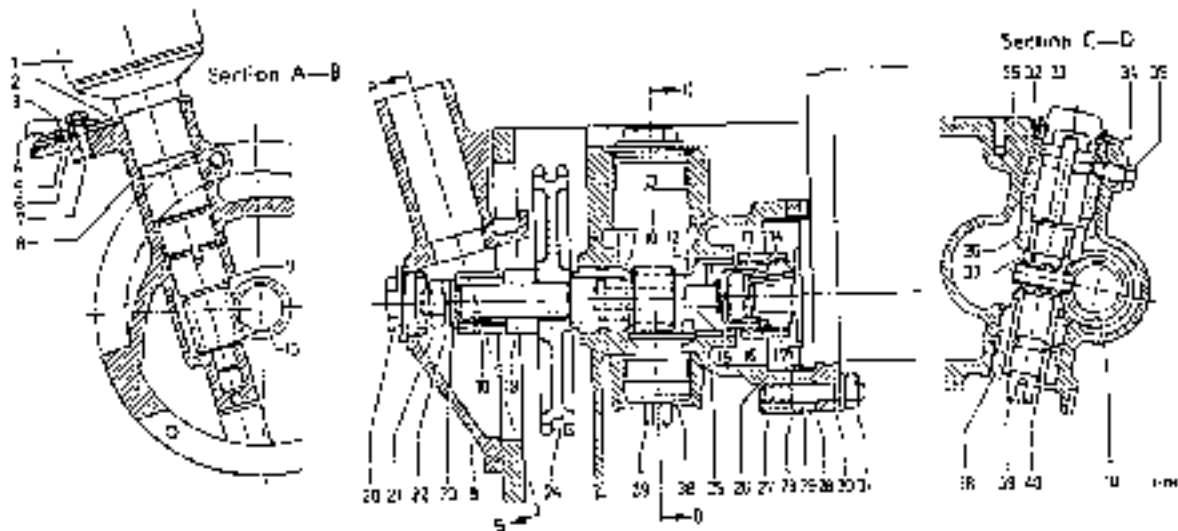

Fig. 18-1/6
On Model 220 SE the oil pump, the distributor, and the injection pump are driven by the idling gear shaft. The injection pump is connected with the splines at the rear end of the idling gear shaft (10) by means of a coupling sleeve (13) (Fig. 18-1/6). The helical gear (9) for driving the distributor (1) is carried in a cover screwed to the crankcase (Section A-8) and engages with the drive sleeve (18) on the idling gear shaft. As on other models the oil pump is driven by the idling gear shaft (10) via the helical gear (29) which is carried at the bottom in the bearing assembly (38) in the crankcase and at the top in the pressure piece (36). The pressure piece is seated by means of the rubber ring (34), the cover disk (32), and the screw plug (33) and is secured by means of the hexagon screw (35) (Fig. 18-1/6).